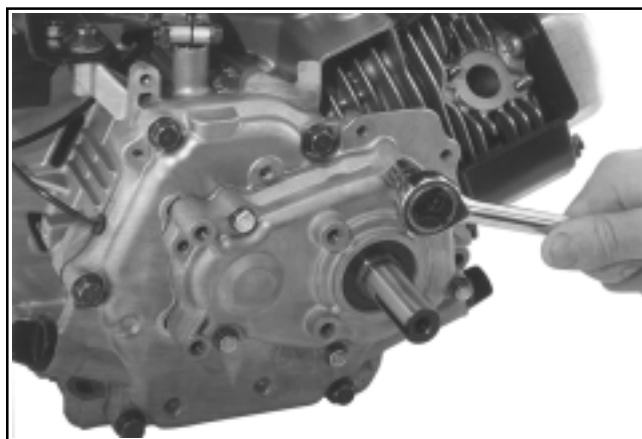

Figure 9-53. Removing Reduction Housing Screws on CS4, CS6.
- Remove the mounting bolts securing the reduction system housing onto the crankcase. Place a flat pan or towel under the housing to catch any remaining oil. See Figures 9-53 and 9-54.